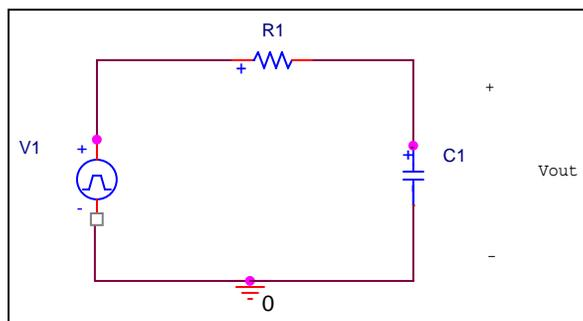
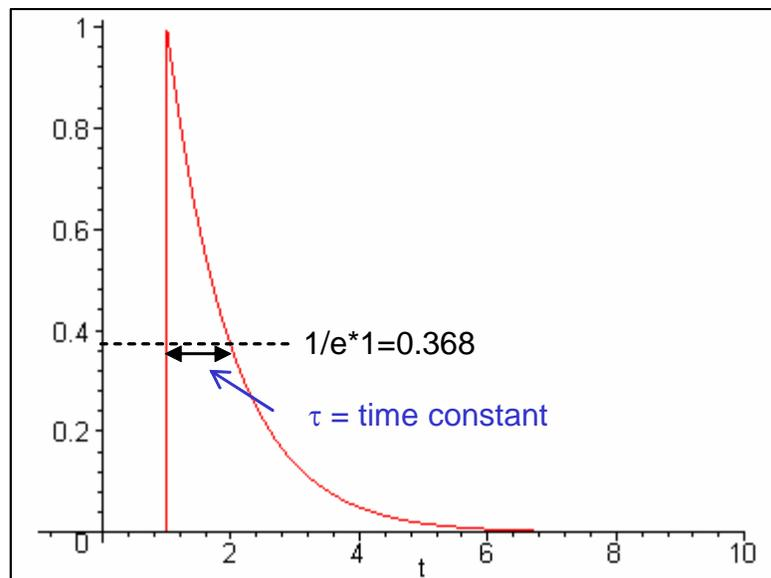
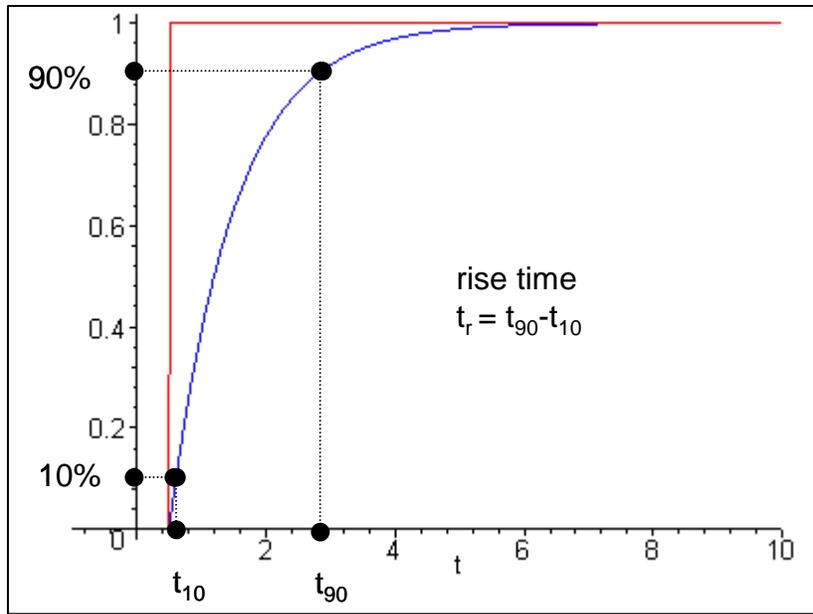

Figure 1. Simple RC lowpass filter circuit.
Figure 2. Impulse response of the RC lowpass filter circuit of Figure 1, showing the definition of the circuit time constant.
Figure 3. Step response of the RC lowpass filter circuit of Figure 1, showing the definition of the 10-90% risetime.
There is a basic need to be able to characterize a circuit independent of its circuit design and layout in order to predict its behavior. Consider the now-overly-familiar RC lowpass filter shown in Figure 1. We could describe this system by showing its circuit schematic or by calculating its impulse response or transfer function. But in many cases only FOMs are important to determine the adequacy of the system.
The first FOM is the system time constant. Many simple systems display a characteristic exponential decay (or rise) in their response. Since the form of the response is known, the only data important to characterize a specific system is the numerical value of its time constant. Figure 2 shows a typical impulse response for the RC filter of Figure 1. The characteristic exponential decay is just as we remember from class. The time constant of the circuit is defined as the time it takes for the response to decay to $1/e$ (37%) times its initial value. Since the functional form of the response is $\exp(-t/RC)$, the time constant of the circuit can easily be shown to be simply RC .
The second FOM, the risetime, characterizes the response of the system to a positive step change in input. The response of the circuit of Figure 1 to an applied unit step input is shown in Figure 3. The rise time most typically used as a FOM is the “10-90% risetime”, which is simply the amount of time necessary for the output to rise from 10% to 90% of its final value. This measurement is shown in Figure 3 as the time difference between the times t_{10} and t_{90} . These values can easily be determined given the step response of the system.
1. Calculate the impulse response of the RC lowpass filter shown in Figure 1, in terms of unspecified components R and C. Determine the time constant for the circuit.